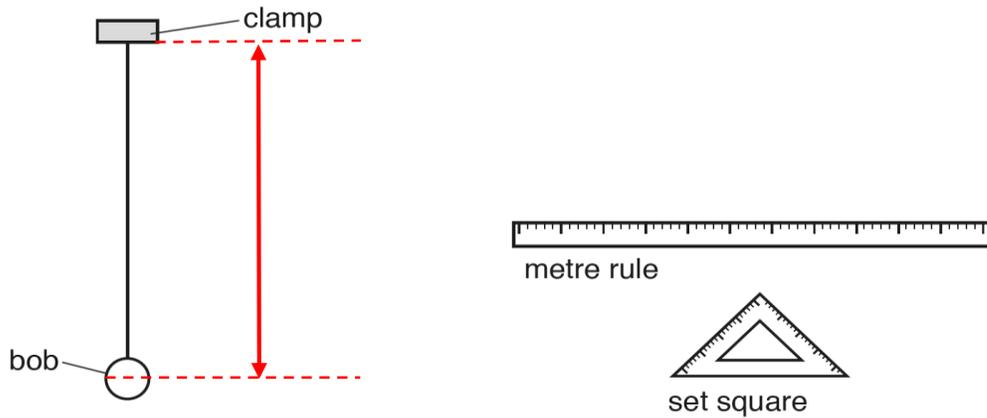

Fig. 4.1
Fig. 4.1 shows the apparatus.
- (a) (i) On Fig. 4.1, show clearly the length  $l$  of the pendulum. [1]